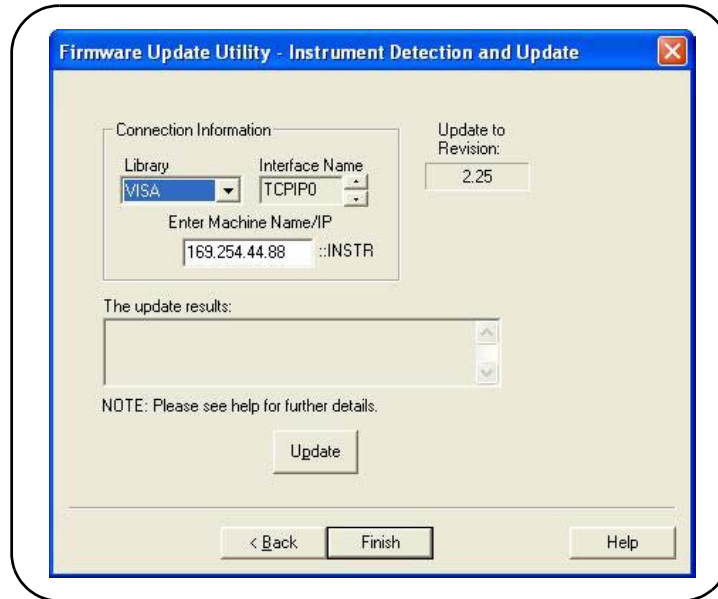

Figure 3-11. Specifying the Instrument Address.
3. Select the I/O interface between the PC and the instrument and then select 'Next'. Enter the machine name/IP address, GPIB address, or USB address/alias as prompted (Figure 3-11). Select 'Update' to start the update process.